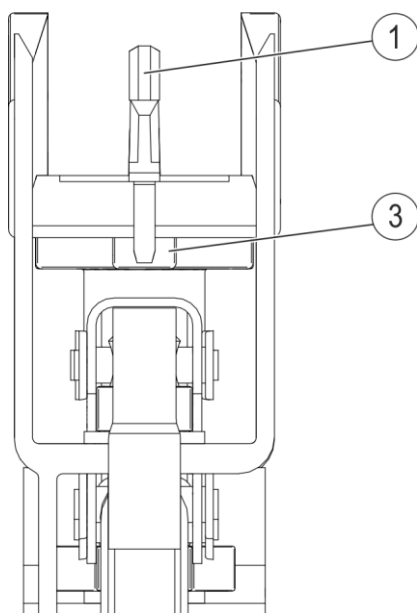

Fig. 130: Sliding contact (Pos. 1) sits in the contact plate (Pos. 3)
- The sliding contact (Pos. 1) must be between the contact plate (Pos. 3) and must not sit next to the contact plate (see Fig. 130).